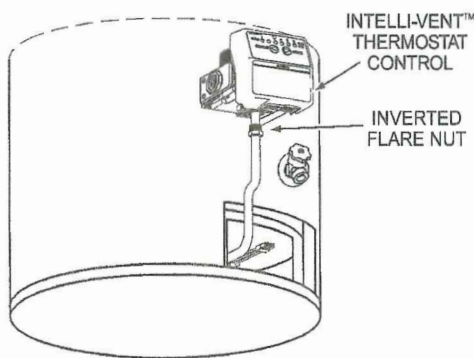

FIGURE 12.
- a. If your water heater is equipped with a slotted burner support located towards the back of the inside of the combustion chamber, make certain that the flat end of the burner supply tube goes into the slotted opening of the burner support and the flared end goes into the inverted flare opening of the Intelli-vent™ Thermostat Control, (184960 Series), see Figure 12.
- b. If your water heater is equipped with a U-shaped burner support located towards the front of the inside of the combustion chamber, make certain that the burner supply tube is positioned inside the U-shaped burner support and the flared end goes into the inverted flare opening of the Intelli-vent™ Thermostat Control, (184960 Series), see Figure 12.
16. Hand start threading the burner tube's inverted flare nut into the Intelli-vent™ Thermostat Control, (184960 Series). Use a 3/4 inch open-end wrench to tighten the nut, see Figure 12. DO NOT over tighten. DO NOT use joint compound or tape on the union connection.